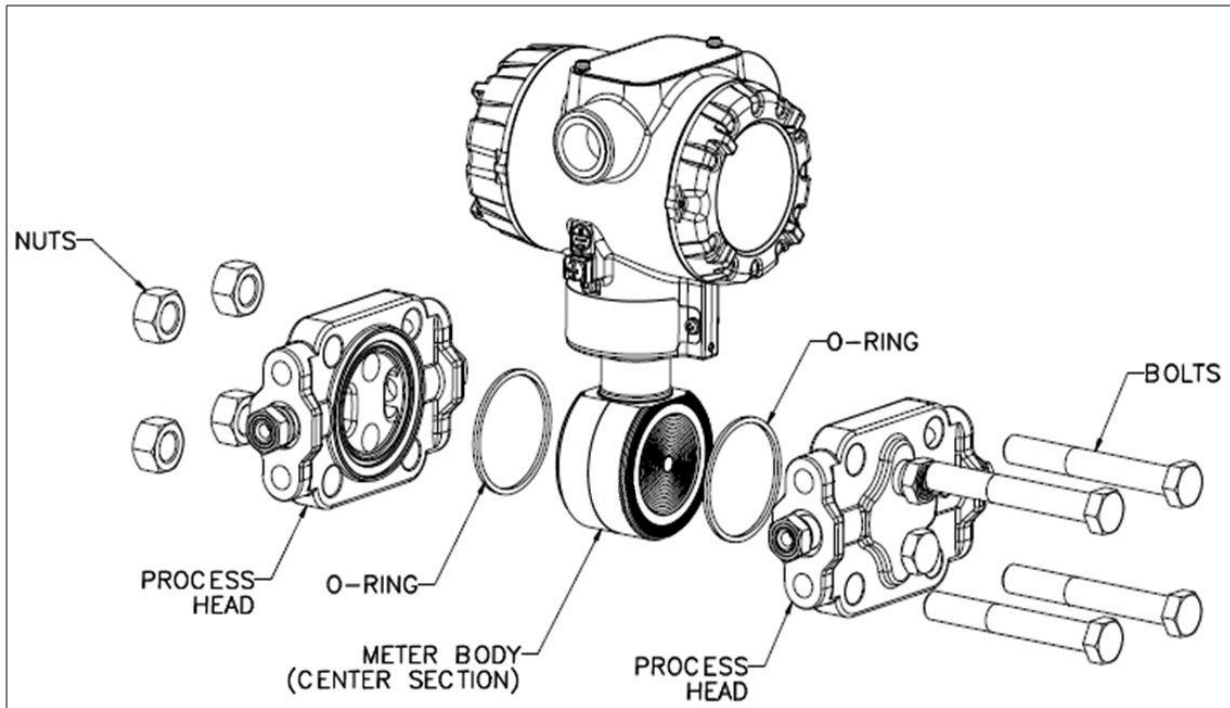

Figure 61 – ST 700 Basic Transmitter - DP Transmitter Head Disassembly
The following procedure comprises the general steps for inspecting and cleaning barrier diaphragms. You may have to modify these steps to meet your particular process or transmitter model requirements. Figure 61 shows an exploded view of a Differential Pressure (DP) transmitter meter body for reference. For disassembly/reassembly purposes, Gauge Pressure (GP) and Absolute Pressure (AP) transmitters are similar.